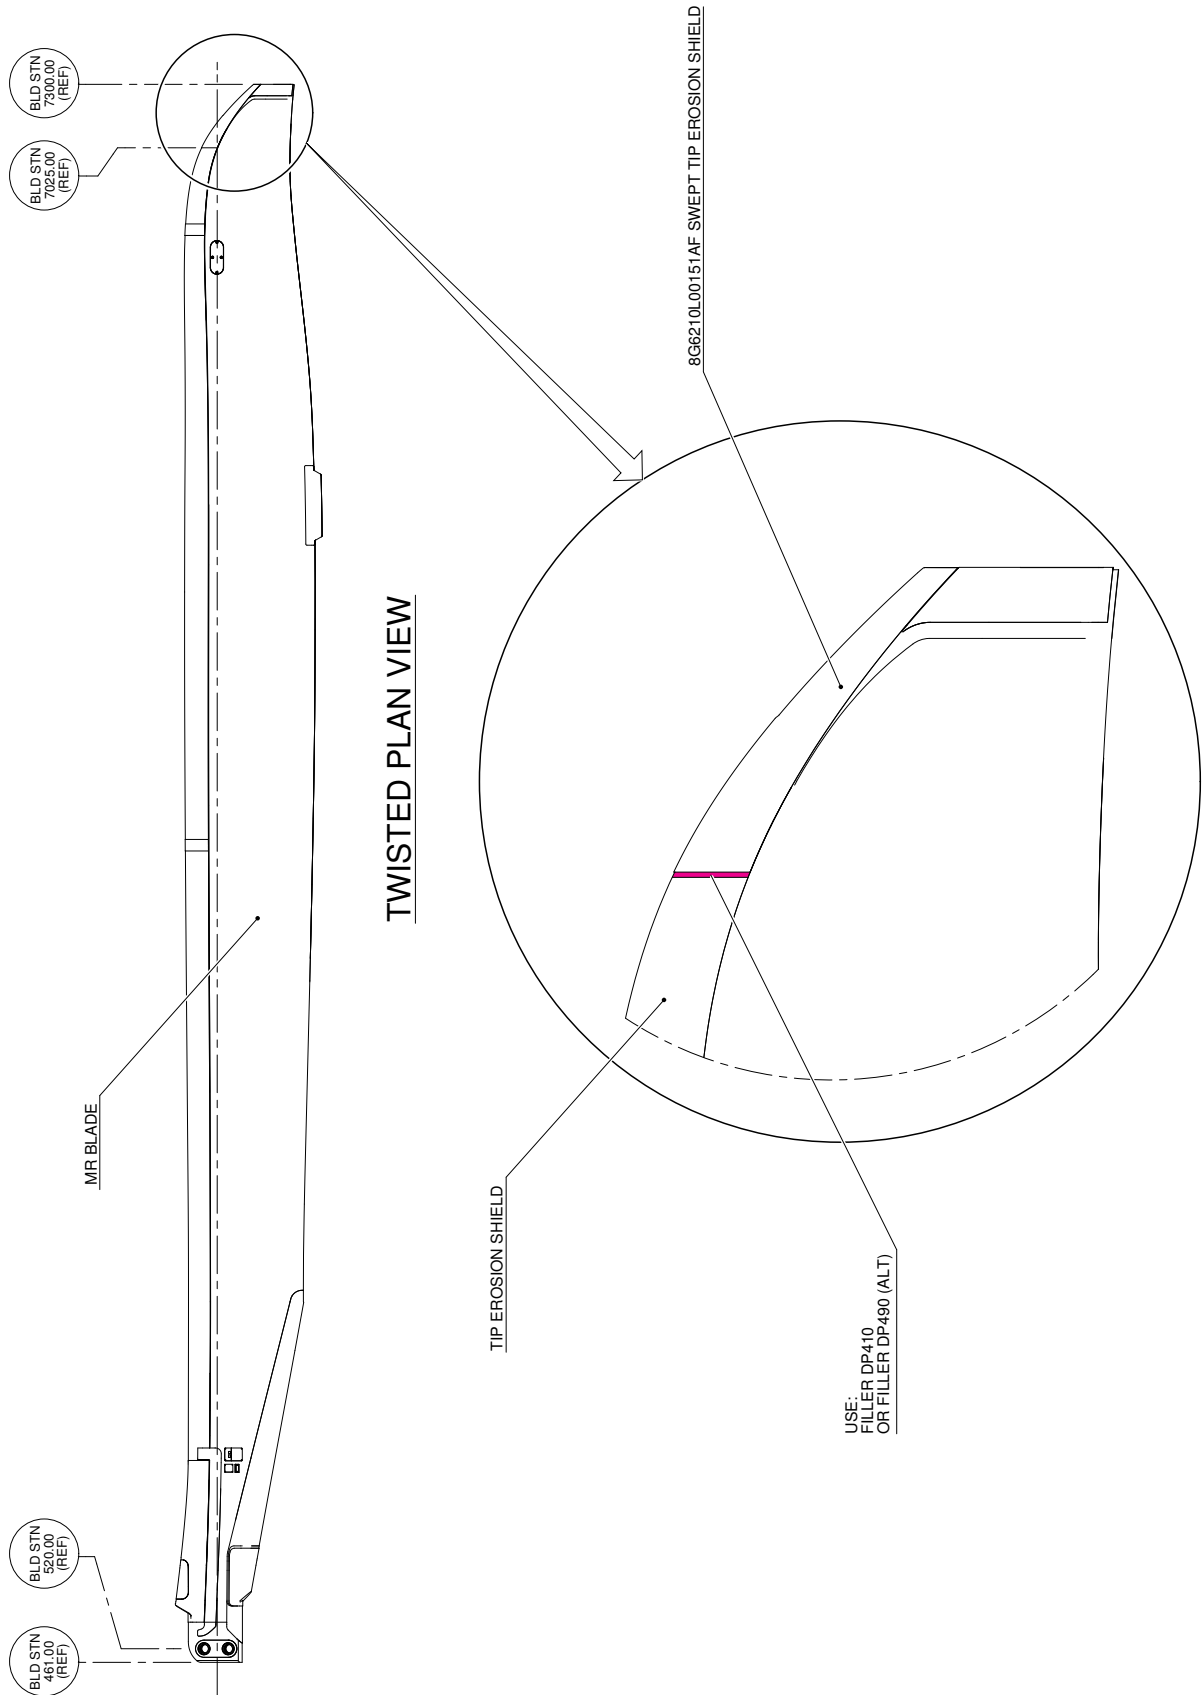

Figure 3
- 3.21 With reference to figure 3, caulk the edge of the swept tip erosion shield using filler (C523) or filler (C468).